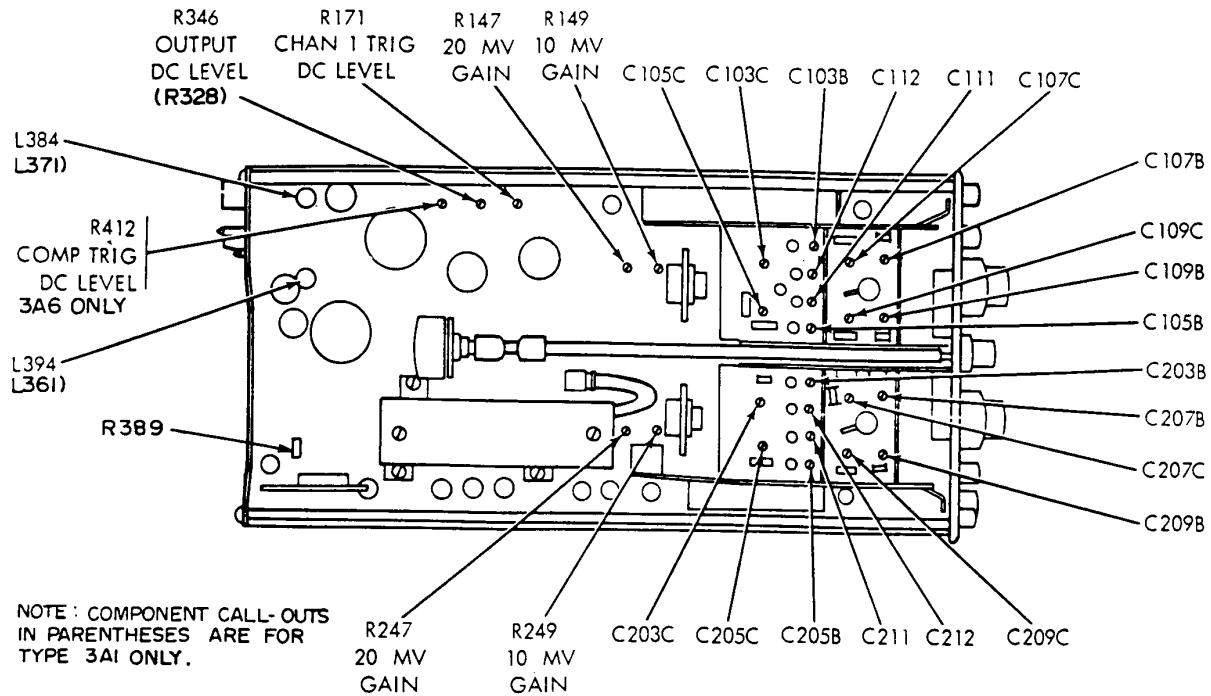

Figure 1. Dual-trace amplifier-left interior view
(1) Connect ac/dc voltmeter (A2) between brown (lower) connector on oscilloscope (A5) crt and chassis ground, using leads supplied with ac/dc voltmeter and two adapters (B3) (AN/ GSM-256 use two leads and two adapters (B9 and B3)).
(2) Adjust TI CH1 POSITION control to align oscilloscope trace with center horizontal graticule line. Record ac/dc voltmeter indication.
(3) Connect ac/dc voltmeter between blue (upper) connector on oscilloscope crt and chassis ground. Record ac/dc voltmeter indication. If voltage recorded in (2) and (3) does not average +180 volts dc for type 3A1 and +190 volts dc for type 3A6, perform **b** below.
b. Adjustments. Repeat **a**(1) through (3) above and adjust OUTPUT DC LEVEL R328 (fig. 1) for +180 volts dc for type 3A1, or R346 (fig. 1) for +190 volts dc for type 3A6.
(1) Pull out TI TRIGGER (CHI ONLY PULL) switch.
(2) Connect ac/dc voltmeter (A2) between oscilloscope (A5) pin 12 of interconnecting plug (horizontal) and chassis ground, using leads supplied with ac/dc voltmeter and two adapters (B3) (AN/GSM-256 use two leads and two adapters (B9 and B3)). If ac/dc voltmeter does not indicate between -0.4 and +0.4 volt dc, adjust CHAN 1 TRIG DC LEVEL R171 (fig. 1) to obtain required indication on ac/dc voltmeter.
(3) Push in TI TRIGGER (CHI ONLY PULL) switch.
(4) Position and maintain trace on horizontal graticule centerline on oscilloscope crt. If ac/dc voltmeter does not indicate between -0.4 and +0.4 volt dc, adjust COMP TRIG DC LEVEL R412 (fig. 1) to obtain required indication on ac/dc voltmeter for type 3A6 only.
(1) Adjust ac calibrator output for 17.675 millivolts rms.
(2) Adjust 10 MV GAIN R149 (fig. 1) for 5 major divisions of deflection for CH1, and 10 MV GAIN R249 (fig. 1) for 5 major divisions for CH2 on oscilloscope crt (R).
(1) Adjust ac calibrator output for 35.35 millivolts rms.
(2) Adjust 20 MV GAIN R147 (fig. 1) for 5 major divisions of deflection for CH1, and 20 MV GAIN R247 (fig. 1) for 5 major divisions of reflection for CH2 (R).
(1) Connect square-wave generator (A7) output to TI CH1 input, using cables and termination supplied with square-wave generator, standardizer (B6) and adapters (B1 and B2) (AN/GSM-256 use cable (B4)).
(2) Adjust time base plug-in (A8) for a .2 millisecond sweep.
(3) Turn TI CH1 and CH2 VOLTS/DIV switches to .01 and set CH1 and CH2 AC-DC-GND switches to DC.
(4) Adjust square-wave generator frequency to 1 kHz and amplitude for 4 major divisions of vertical deflection on oscilloscope (A5) crt. If square-wave display does not have flat tops, adjust standardizer for optimum square wave with flat tops. If optimum square wave cannot be obtained, adjust C111 (fig. 1) to midrange and readjust standardizer. For CH2, adjust C211 (fig. 1) instead of standardizer.
(5) Repeat technique of (3) and (4) above for TI VOLTS/DIV switch settings and adjustments listed in table 5 and shown in figure 1. Adjust for optimum square-wave display on oscilloscope crt.
Adjustments (fig. 1)
(3) Adjust time base plug-in (A8) for a .5 microsecond sweep.
(4) Adjust square-wave generator frequency to 800 kHz and amplitude for 4 major divisions of vertical deflection on oscilloscope (A5) crt. If square wave does not have square corners with minimum overshoot and undershoot, perform **b** below.
(5) Adjust time base plug for a .05 microsecond sweep.
(6) Measure rise time, using standard risetime technique. Rise time will be 35 nanoseconds or less.
(7) Remove square-wave generator connection from TI CH1 and connect to CH2.
(8) Turn TI MODE switch to CH2 and repeat (6) above.
b. Adjustments. Adjust L361 and L371 (fig. 1) for type 3A1, or L384 and L394 (fig. 1) for type 3A6, for optimum square-wave display (R).
(2) Place CRT CATHODE SELECTOR switch to UP position (rear panel of oscilloscope (A5)).
(3) Adjust time base plug-in (A8) controls for 1 millisecond/division and TRIGGERING controls for a free-running display on oscilloscope crt.
(4) Adjust TI POSITION controls for oscilloscope crt display with traces aligned with horizontal lines.
(5) Connect multimeter (A4) between oscilloscope CRT UPPER vertical deflection plate pin (blue wire) and ground, using lead (B8). Record multimeter indication.
(6) Connect multimeter between oscilloscope CRT LOWER vertical deflection plate pin (brown wire) and ground. Record multimeter indication. If average of multimeter indications recorded in (5) above and this step is not 180 volts dc, perform **b** below.